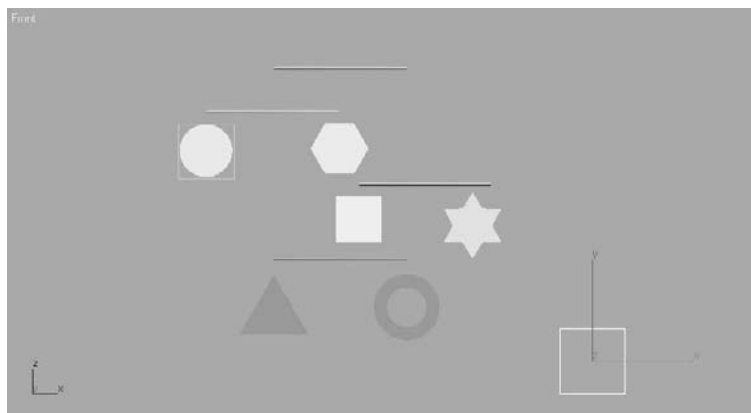

Figure 8.14
1. Create a dummy of any size anywhere in the mobile scene (Figure 8.14).